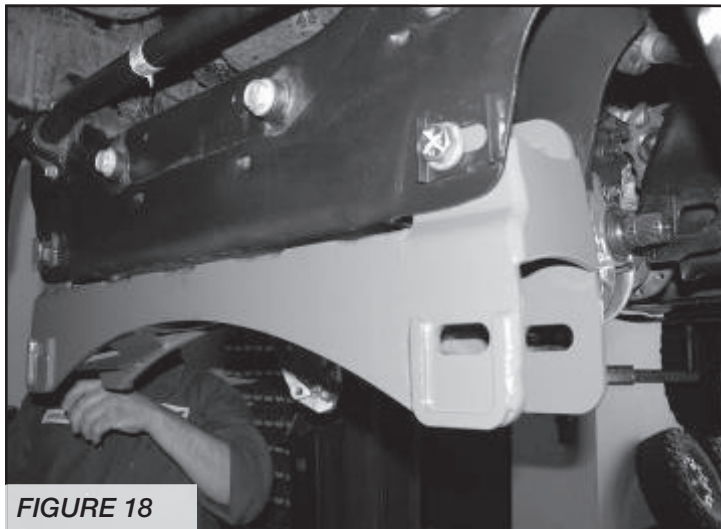

FIGURE 18
28. Locate FT44088BK front crossmember and install it into the front lower control arm pockets using the supplied $\frac{5}{8}$ " x $5\frac{1}{2}$ " bolts, nuts, and washers. Leave loose at this time. **SEE FIGURE 18**